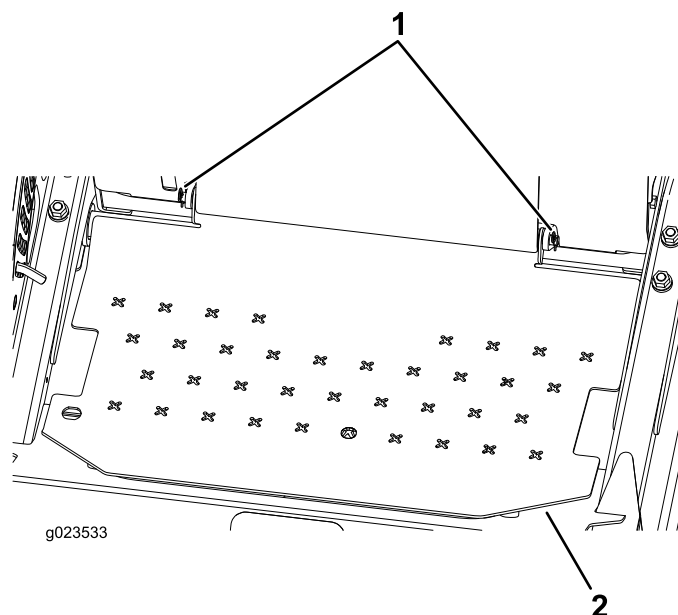

Figure 11
10. Install the floor plate using the 2 clevis pins (Figure 11).